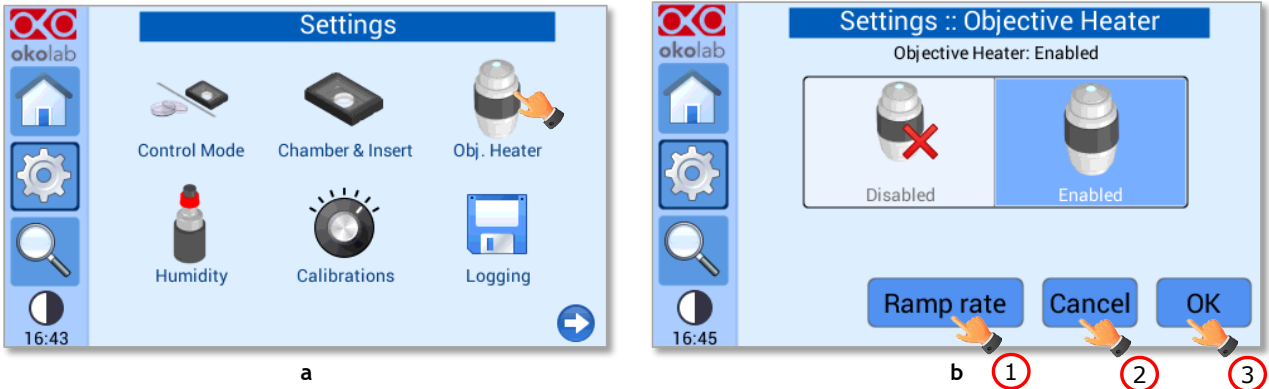
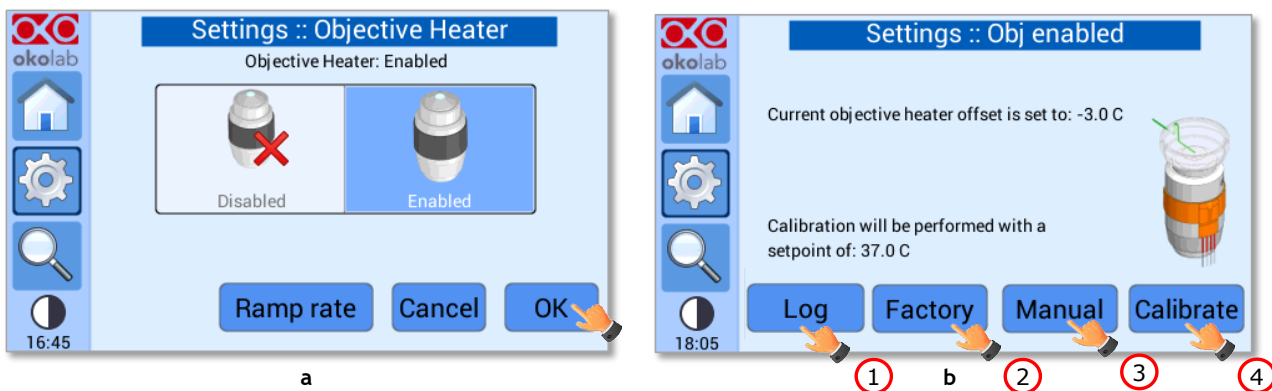

Figure 43. Ho to enter the Obj, Heater menu (a -b).
Figure 45. Settings – Obj. Heater –Enabled - menu (a – b).
Press on  Objective Heater icon (see Figure 43 a) to enter the Objective Heater menu, see Figure 43 b.
2. Press *Cancel* to discard your choice (see pointer 2 in Figure 43 b).
3. Press *OK* to confirm (see pointer 3 in Figure 43 b), the menu in Figure 45 b will appear.
1. By pressing *Log* button (see pointer 1 in Figure 45 in b) you can select parameters obtained by calibrations previously performed (see paragraph 8.2.5.3).
2. By pressing *Factory* button (see pointer 2 in Figure 43 b) UNO-CONTROLLER will recover the factory offset.
3. Press *Manual* button (see pointer 3 in Figure 43 b) to insert the offset value manually (see paragraph 8.2.5.3).
4. By pressing *Calibrate* button (see pointer 4 in Figure 43 b) UNO-CONTROLLER will perform a calibration routine for your specific environment, see paragraph 8.2.5.3.